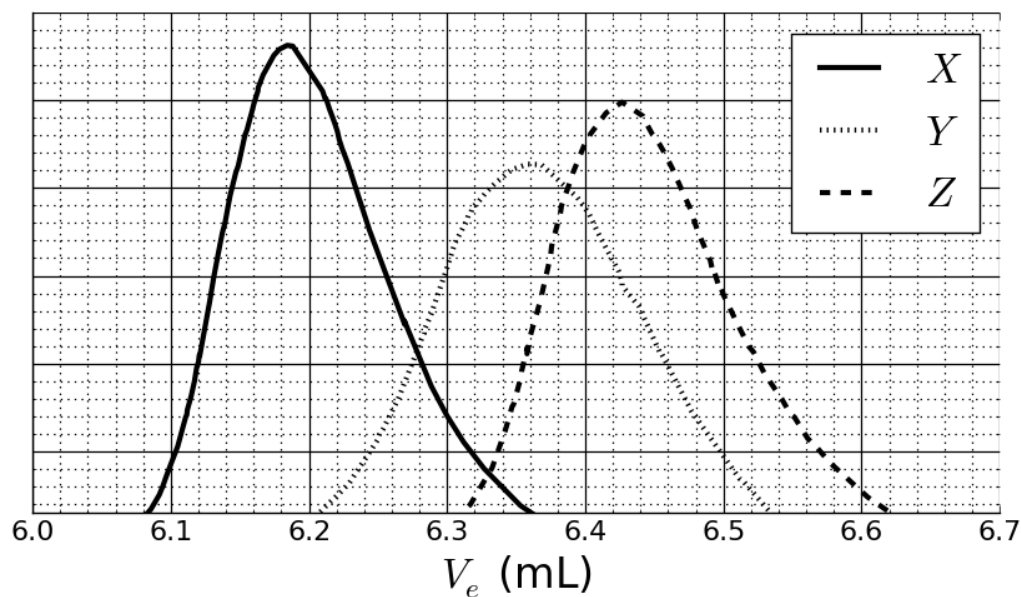

Fig. 2 – SEC chromatograms of **3a**, **3b** and **3c** as a function of the elution volume, V_e .
This reaction of **1** with **2** yielded the copolymers **3a** after 20 h, **3b** after 25 h and **3c** after 30 h of reaction at 40 °C. Results of size-exclusion chromatography (SEC) experiments are presented in Fig. 2.
6. **Match** the signals in Fig. 2 with the copolymers **3a**, **3b** and **3c**.
7. Based on the SEC curves in Fig. 2 and 3, **determine** V_e of the polymer that corresponds to curve X and use it to **estimate** the degree of polymerisation m of its second block. **Detail** your calculation; you may use a calculator or plot a graph.